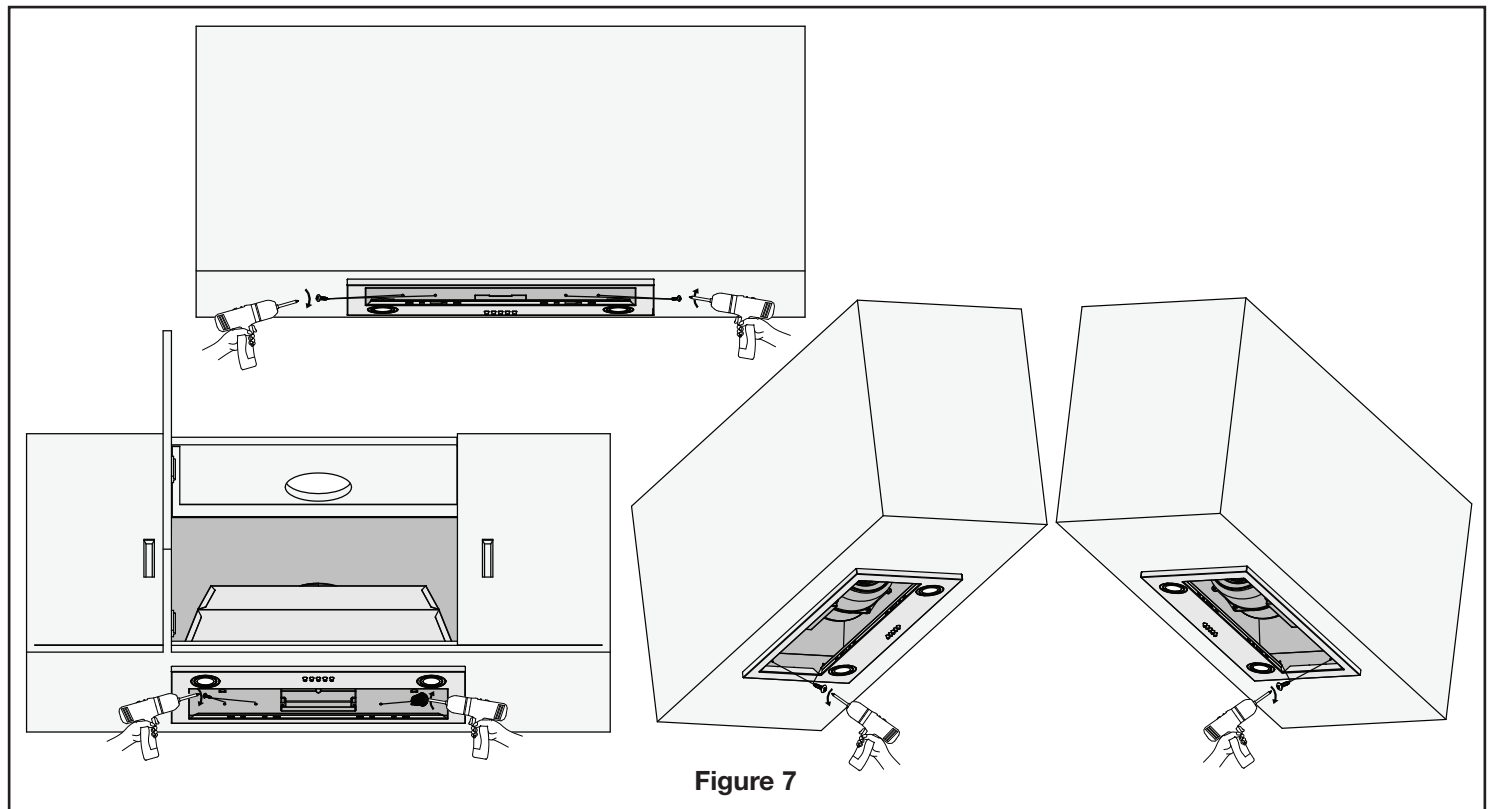

Figure 7
- Use 12 screws to fix the hood (see Figure 7).